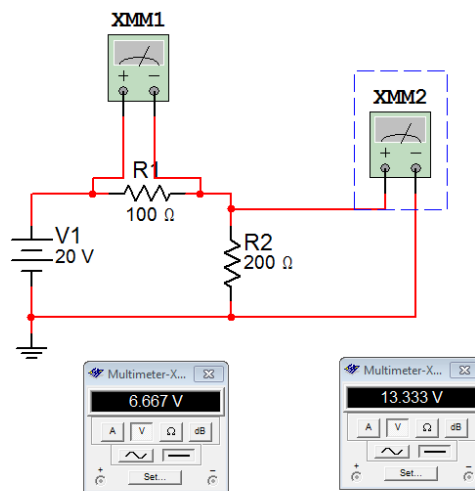

Figure 1A-6
To add the voltmeters (XMM1 and XMM2 in Figure 1A-6), select a virtual DMM from the top of the Instruments toolbar along the right edge of the screen. Drag this onto the work space and wire it across R1 as shown in Figure 1A-6. Grab a second virtual DMM and repeat the process for R2. Now double click on the DMMs. Two small windows will pop up (they might overlap each other, if so, move one over). Select the V (voltage) button and the straight line (DC) button on each of them. The circuit is now ready to perform a simulation.